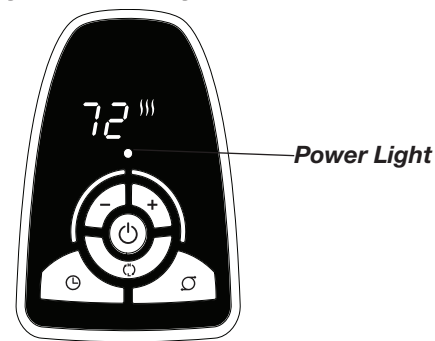

Figure 1
OPERATION (Figures 1 through 3)
7. Upon turning the Heater on, the unit will be in HIGH heat (H) (1500 Watts) and will display the current room temperature. (Figure 1)